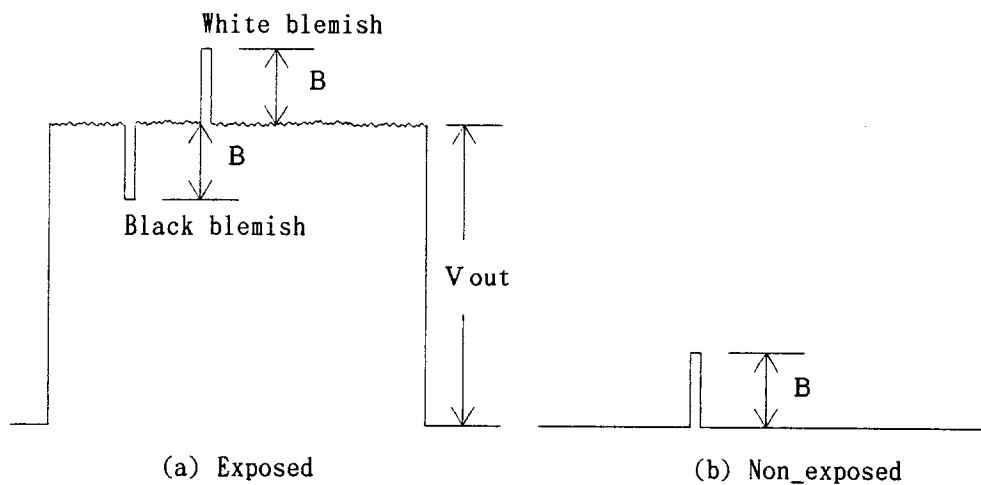

fig. 9-1 Definition of blemish level
- B : Blemish level defined in fig. 9-1.